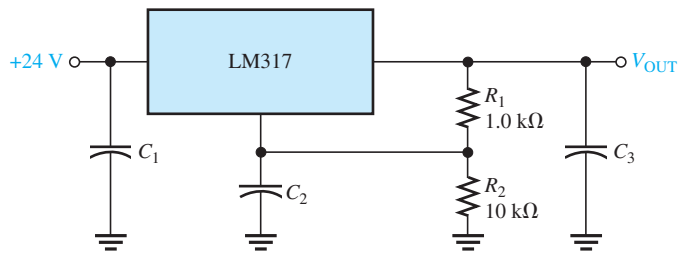

FIGURE 11-46
21. Determine the output voltage of the regulator in Figure 11-46. $I_{ADJ} = 50 \mu\text{A}$.